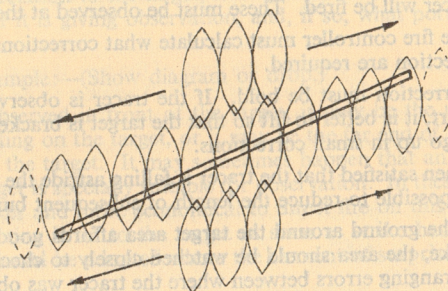

Fig 7
- If the target is more than eight mils wide the order will be, "Traversing, lay", because two clicks will not cover the target and allow for errors in direction. (See Fig 7.)